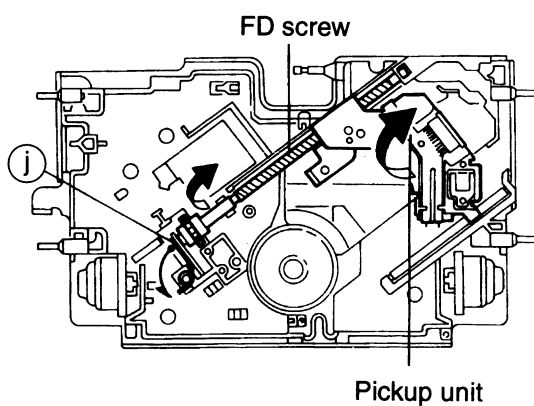

Fig. 20
7. While pressing and expanding the spring section holding the FD screw in the arrow direction, remove the FD screw and dismount the pickup unit (See Fig. 20).